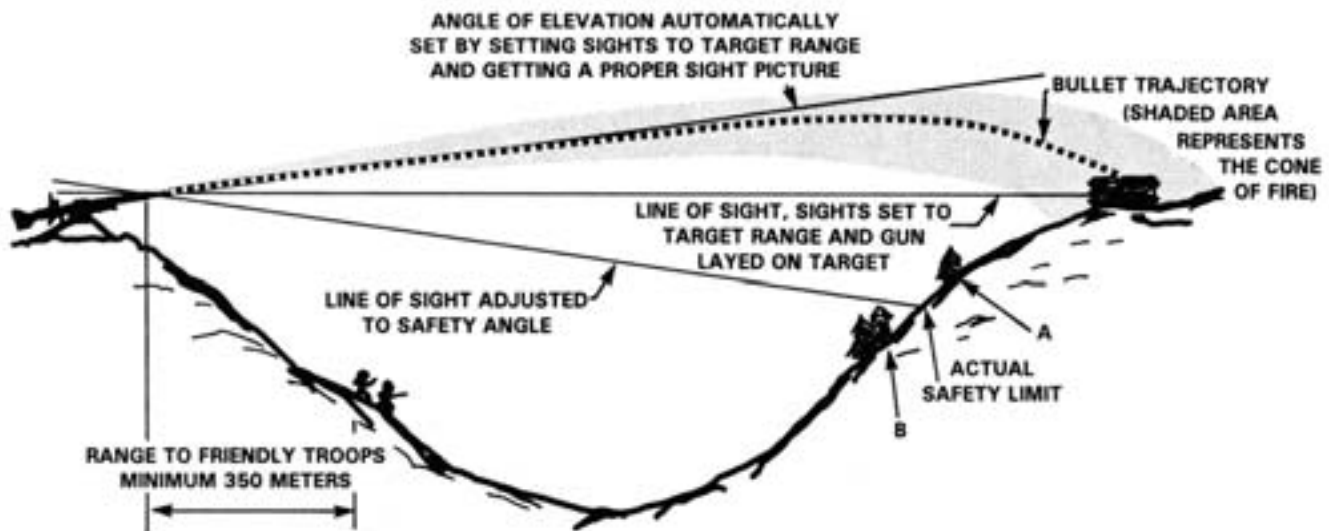

Figure 6-26. Leader's Rule.
- If the line of aim intersects the selected terrain feature, the selected feature is safe to use as the safety limit. Example: If the unit leader selected the center of the open area between the clumps of trees (A and B) in figure 6-26 as the terrain feature that he wanted to use as the safety limit then he could use that feature because the line of aim intersects the ground at that point and is, therefore, the “actual safety limit.”
- If the line of aim intersects the ground above the selected terrain feature then the selected feature is safe to use as a safety limit. The leader may want to identify a new terrain feature if one is closer to the line of aim than the first feature selected. Example: If the unit leader had selected the pair of trees (B) in figure 6-26 as the terrain feature that he wanted to use for a safety limit then he could use them because they are located below the point where the line of aim intersects the ground. Friendly troops could advance to those trees without rising above the safety line.
Example: If the unit leader had selected the single tree (A) in figure 6-26 as the terrain feature he wanted to use for a safety limit he would see that it cannot be used because the line of aim intersects the ground below it. If friendly troops did advance to (A) they would be well above the safety line and could possibly be hit by the machine gun's fire.